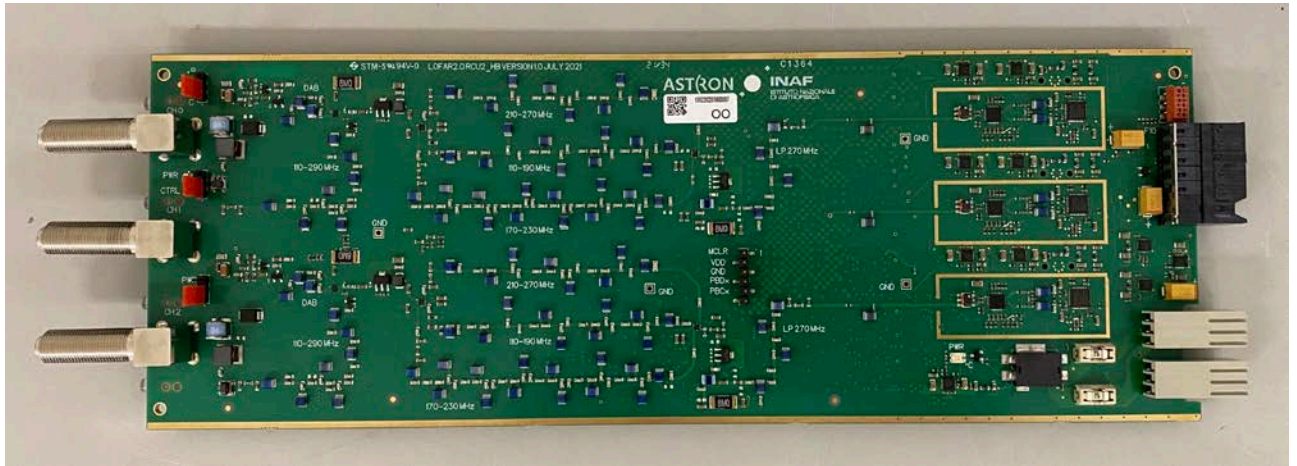
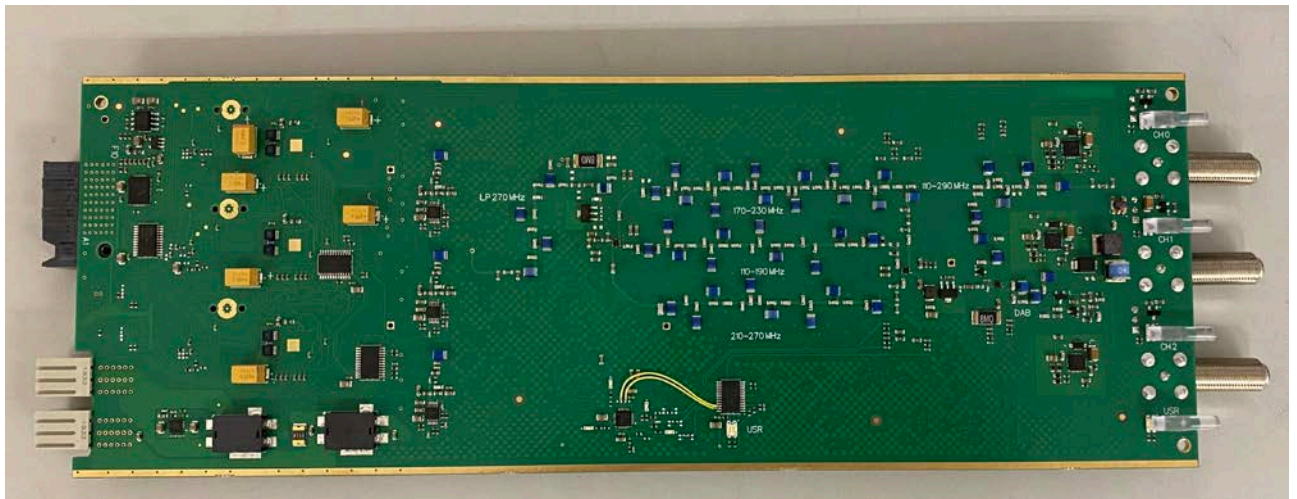

Figure 1 Photo of RCU2H PCBA TOP VIEW
Figure 2 Photo of RCU2H PCBA BOTTOM VIEW
Photos of the assembled board is shown in Figure 1 and Figure 2. The assembly drawing are shown in Section 7.1. On request a STEP-model of the assembly can be supplied by ASTRON.
- Connectors make a 90° angle with the front edge of the PCB (left picture of Figure 1)
- Connectors are parallel to the PCB top side (right picture of Figure 1)